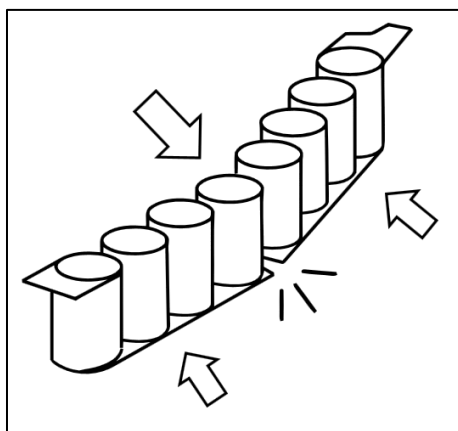
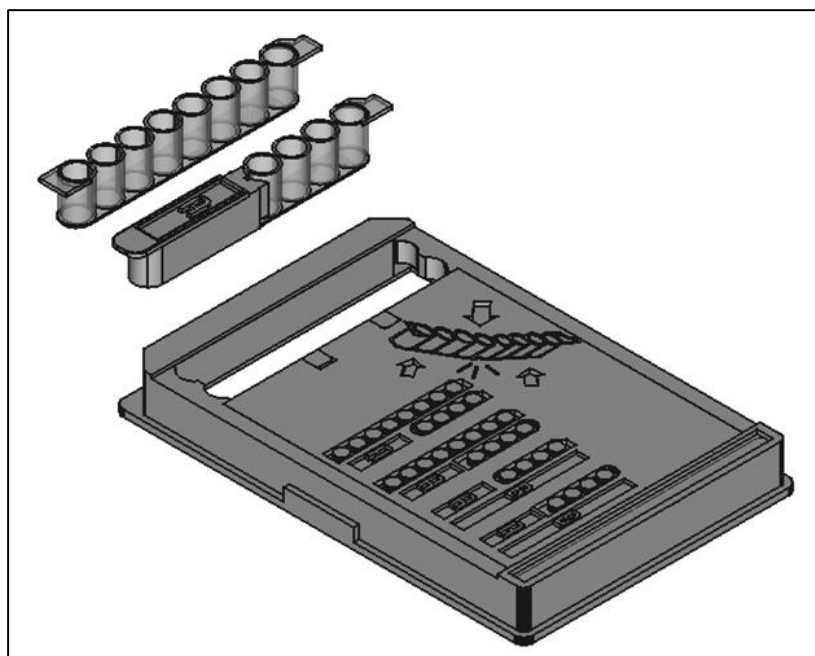

Figure 6: CS cutting scheme
Figure 7: CS immobilization scheme to the Microtiter plate
5. In case of interest in visualizing samples in multiples of four, the CS strip should be cut in half by pressing in the direction of arrows as indicated in Figure 6. The CS halves should be placed within the Microtiter plate with the aid of the system of magnetic adapter, as displayed in figure 7. Additional ways to immobilize the CSs within the Microtiter plate, are displayed on the Microtiter plate surface.